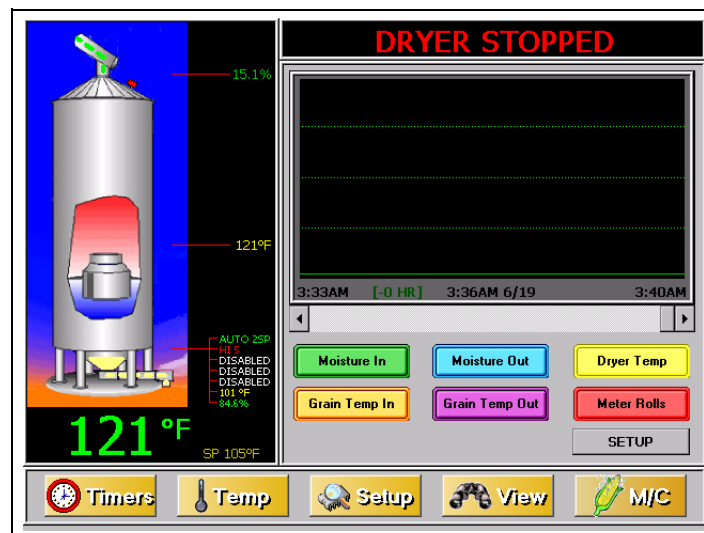

Figure 5U
2. **Graph View:**  This is the “Optional Operation Screen”. (See Figure 5U.)